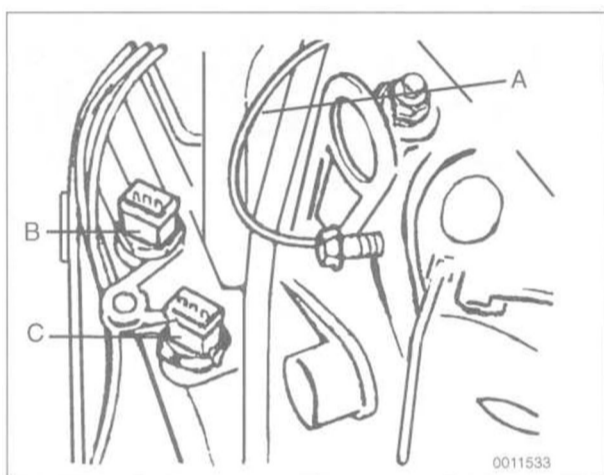

Fig. 14. Ground wire for ignition coils (A) and coolant temperature sensors (B. white connector, C black connector).
9. Remove ground wire from rear engine lifting bracket and disconnect harness connectors from engine coolant temperature sensors at rear of engine. See Fig. 14.